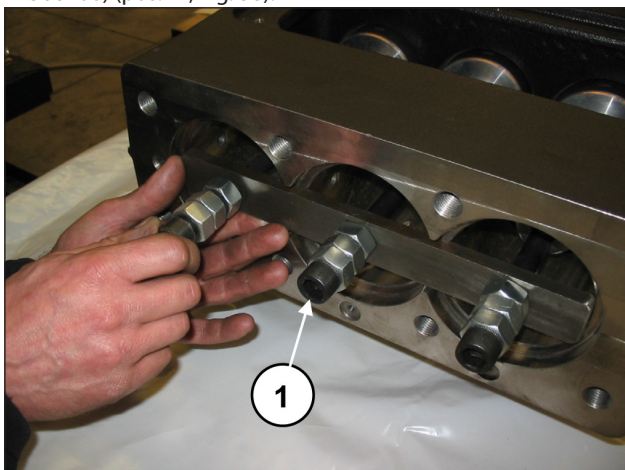

Fig. 38
Advance the half supports in the direction of the hydraulic part and lock them in place using the special tool (code 27566200) (pos. ①, Fig. 38).